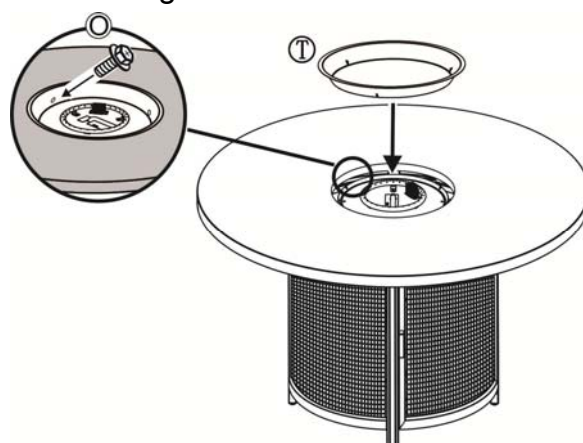

Figure 3
3. Place the burner pan protective ring into the firepan/burner assembly as shown in Figure 3. Align the holes in the burner pan protective ring with the pre-drilled holes on the firepan/burner assembly. Secure the burner pan protective ring to the firepan/burner assembly by using the three M4 screws as shown in Figure 3.